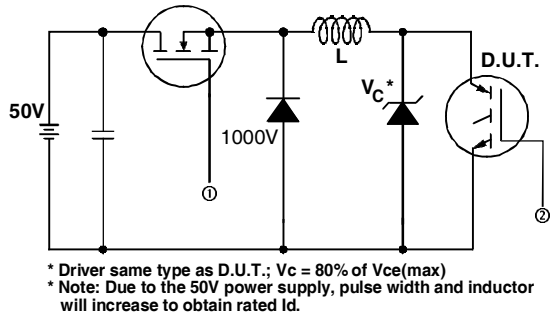

Fig. 13a - Clamped Inductive Load Test Circuit
- ② $V_{CC} = 80\%(V_{CES}), V_{GE} = 20V, L = 10\mu H, R_G = 5.0\Omega,$ (See fig. 13a).
- ③ Repetitive rating; pulse width limited by maximum junction temperature.
- ④ Pulse width $\leq 2.5ms$; duty factor $\leq 0.1\%$.
- ⑤ Pulse width $5.0\mu s$, single shot.